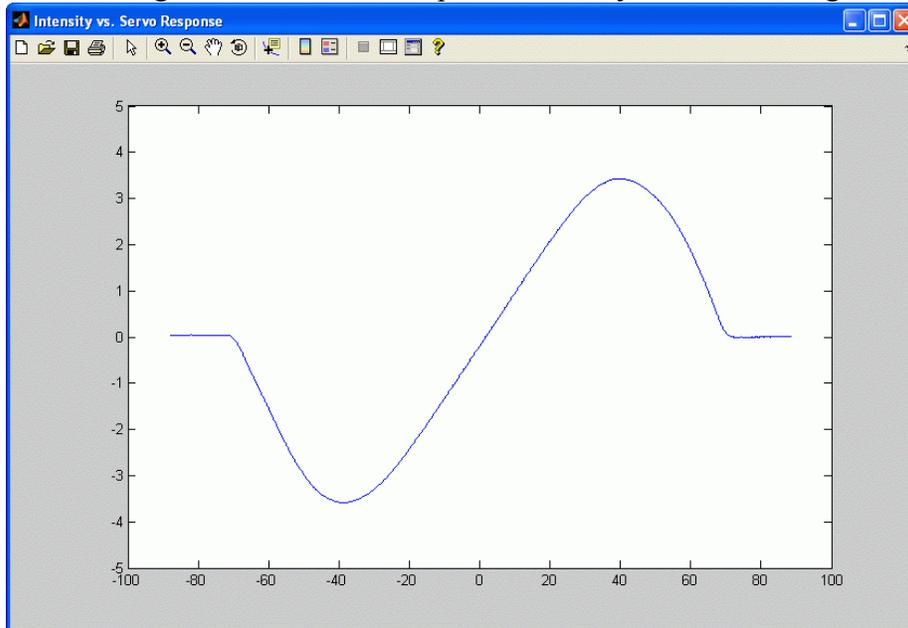

Figure 18: Differential intensity versus camera/servo angle response
8. The X-Y Figure should have a response similarly as shown in Figure 18.
As detailed in *plot_response.m*, using the *ginput* command it was found that the min and max differential intensity is -4.0 V and 3.6 V, and the servo ranges from -42.6 to 38.5 degrees. The sensor gain for the response in Figure 18 is therefore